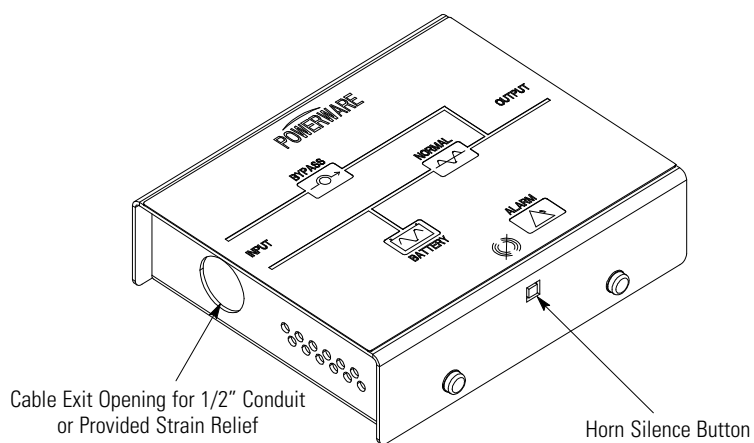
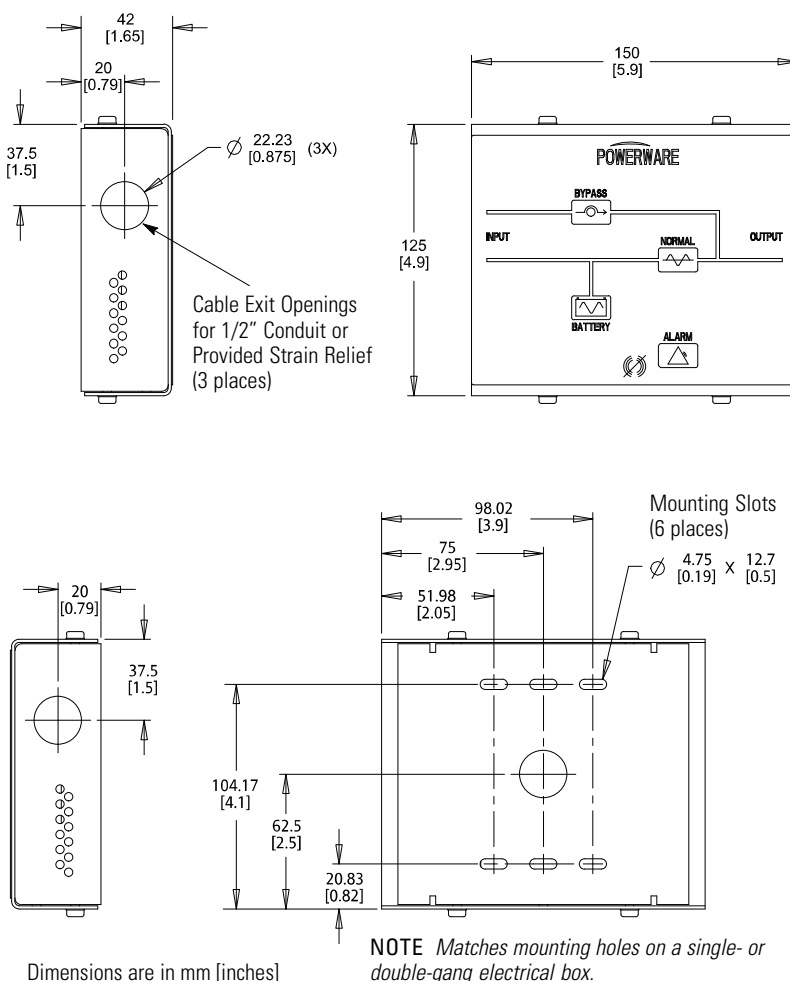

Figure 42. Remote Monitor Panel
Figure 43. RMP Dimensions
The optional RMP can be installed to monitor the operation of the UPS from virtually any location within your facility, up to 500 ft (152.4m) from the UPS. You can surface-mount an RMP on a desktop or on a wall, wherever you have a serial interface line. Figure 42 shows an RMP. Figure 43 shows the enclosure dimensions and cable exit openings.
2. Install 1/2" conduit from the RMP to the IRC through the cable exit openings (see Figure 43). Proceed to Step 4.